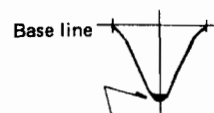

Fig. 20
9. Feed in a weak signal from the genescope. Adjust T151 and T201 for maximum gain and the waveform of Figure 20.